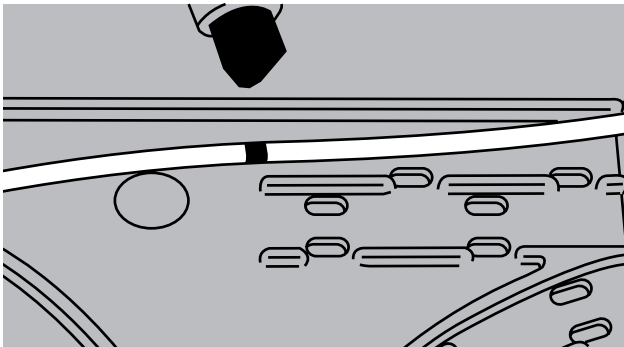

FIGURE 5
5. Mark the loose buffer tube at a point 50 mm (2") inside the splice tray. (Figure 5)